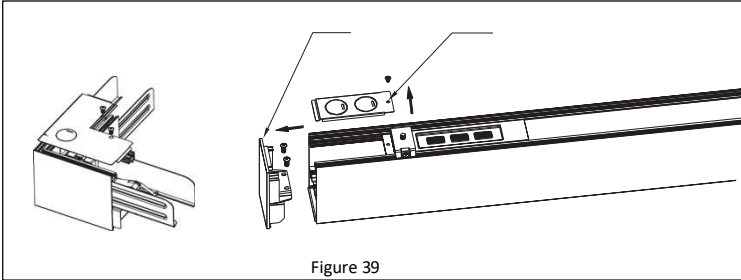

Figure 39
1. Remove the upper cover from both the “L” connector and the fixture. Then remove the end cap from the fixture. **See Figure 39.**